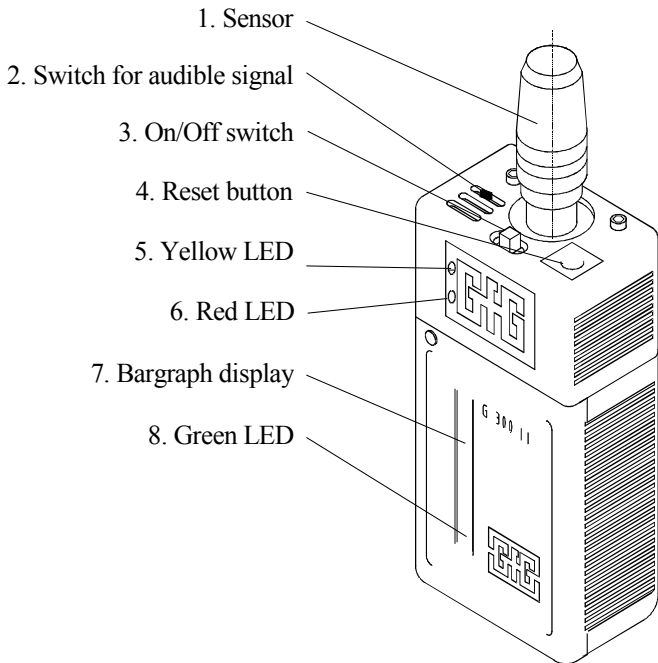

Figure 1
- 1. Bring the On/Off switch (fig. 1, pos. 3) in position "ON".**
2. Push the reset button (fig. 1, pos. 4).
Rising or falling gas concentrations are indicated acoustically by faster or slower rhythmic signals. The red LED (fig. 1, pos. 6) flashes with the same frequency. The audible signals allows leak detection without keeping an eye on the display. The visual indication supports the audible signal in noisy environments.
To cover the wide detection range of the G 300 II from a few ppm up to the Vol.-% range for leak detection, push the reset button (fig. 1, pos. 4) to give the signal a new starting point: